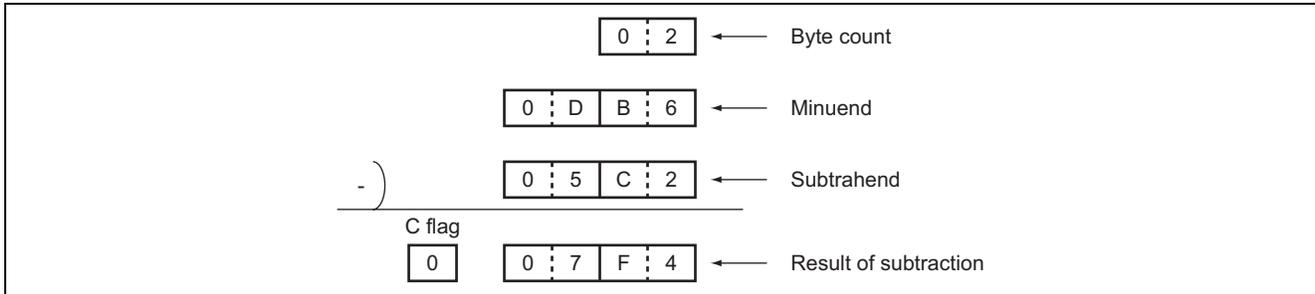

Figure 3 Example of Subtraction with Upper Bits Unused
1. When the upper bits are not used (see figure 3), set them to 0. The software SUB2 performs byte-based subtraction; when 0 are not set in the unused upper bits, a correct result cannot be obtained because the subtraction is done on the numbers including indeterminate data.